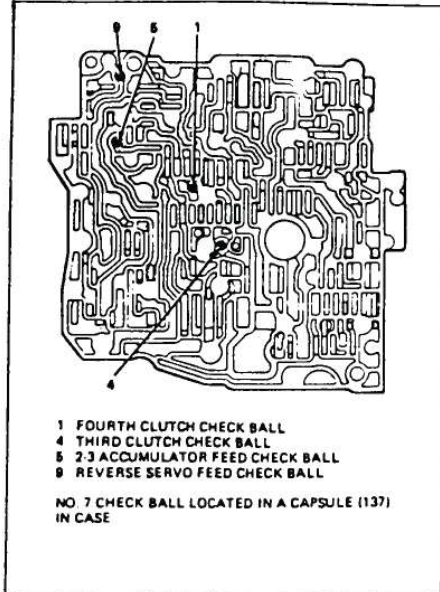
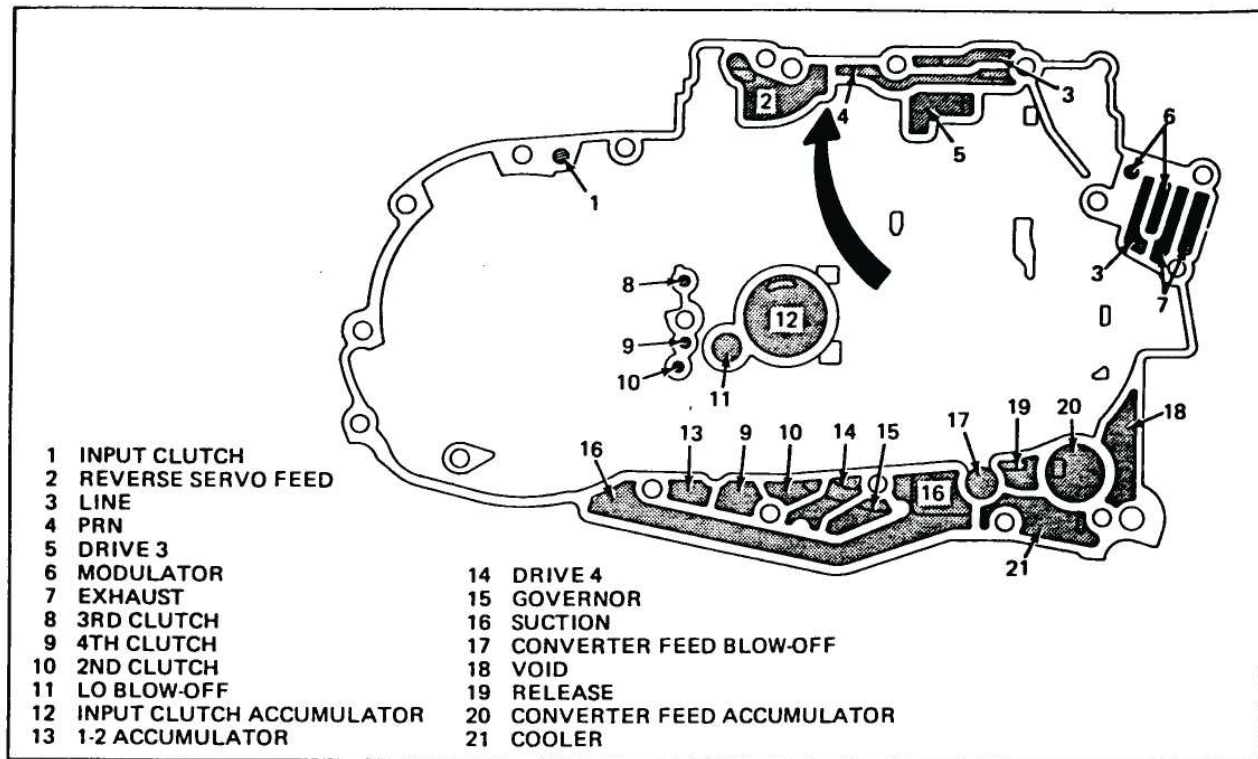

Figure 10 (1985 Only)
Figure 17 (1985 Only)
Refer to Figure 10 for 1985 locations.
- Identification:** The easiest way to identify the channel plates apart is the location of the dam in the upper channel plate worm track area. (See Figure 17 and Figure 18). The dam was moved to an area directly under the upper dowel pin bore.
If the second design gasket (See Figure 10), is used on the 1985 channel plate (Figure 17), it allows PRN oil to enter the reverse servo feed circuit and applies the reverse band. The end result will be, that the transaxle will be in reverse and park at the same time because we also have the input clutch on in park in the 440-T4.